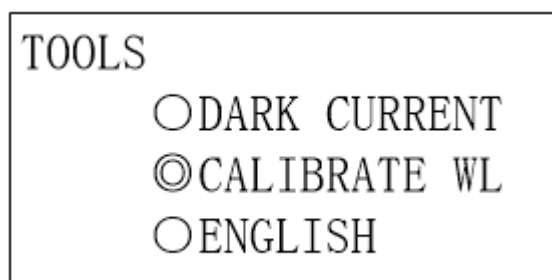

Fig. 4-10
(6) System Tools
Step 1: Choose System tools from the main menu. ENTER to confirm. (Fig. 4-10)